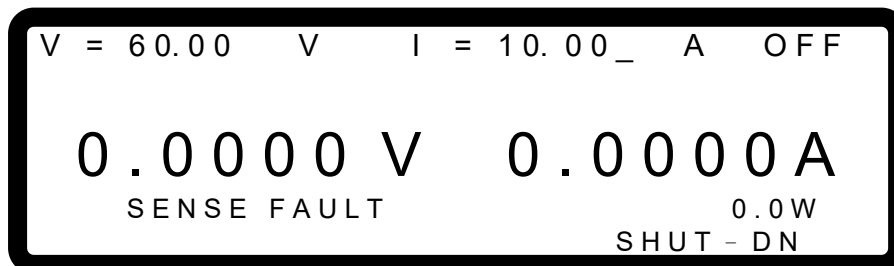

Figure 2-6
3. Though remote sensing is able to compensate the voltage drop; however, if the line loss is too large (see specification) it will cause protection on remote sensing as Figure 2-6 shows and is unable to compensate voltage drop correctly.
The polarity of remote sensing wire must be connected correctly, that is the “+” terminal is connected to the “+” of output terminal or to the connecting wire of the terminal, while the “-” terminal is connected to the “-” of output terminal or to the connecting wire of the terminal. If the polarity is connected reversely, the output will drop to 0V and prompt an error message “SENSE FAULT” as Figure 2-6 shows.